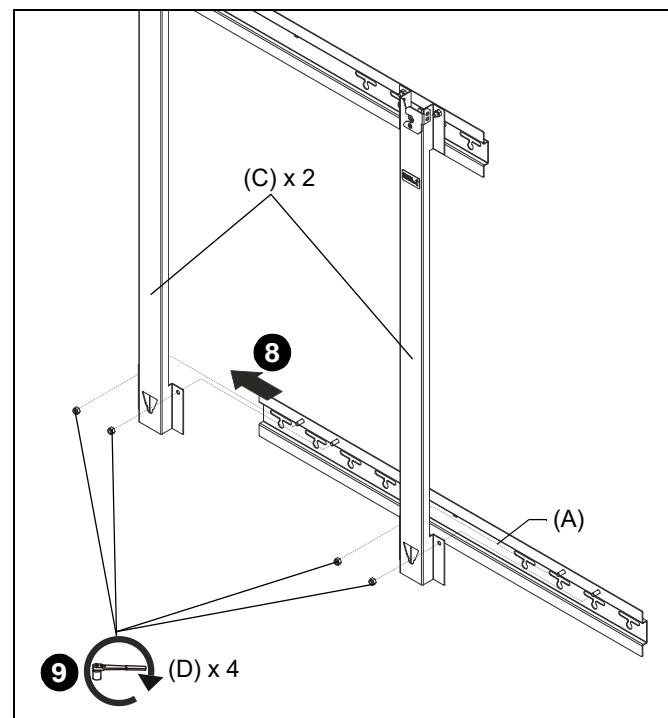

Figure 4
8. Slide wall plate (A) in between wall and lower end of side brackets (C). (See Figure 4)
9. Loosely install two vertical brackets (C) to lower wall plate (A) using four 5/16-18 lock nuts (D). (See Figure 4)